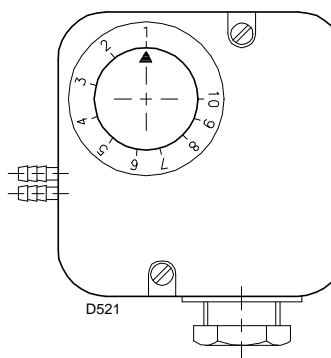

Fig. 34
- Adjust the air pressure switch to the zero position of the scale (Fig. 34).